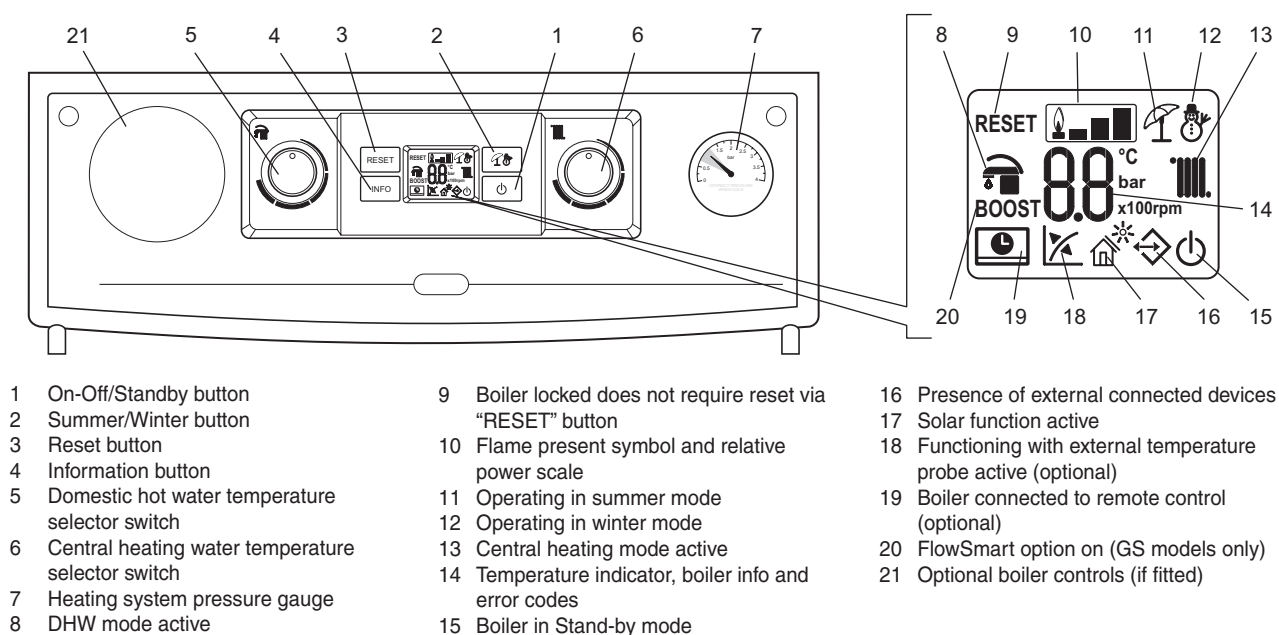
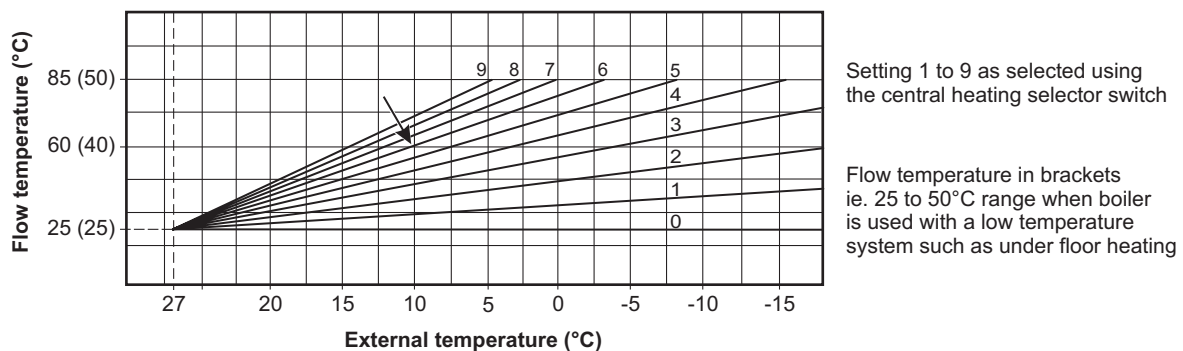

Fig. 1
Fig. 2 - External weather compensation probe fitted
Make sure the heating system is filled and the needle on the pressure gauge (item 7 in Fig. 1) is in the green band. If incorrect refer to Section 5.
Switch the boiler on at the mains supply socket switch. The boiler will automatically go through a system purging operation for 8 minutes; this is indicated by a count down on the display starting from 96. During this operation the pump will turn on and off to help remove any air that may be trapped in the heating system. If the boiler has already been commissioned by the installer then this operation can be terminated by pressing the reset button (item 3 in Fig. 1).
By pressing the On-Off button (item 1 in Fig. 1) the Standby or On mode can be selected, or press and hold the On-Off button for eight seconds to turn the boiler off.
On - In this mode the boiler can be switched between 'Summer' or 'Winter' settings by pressing the Summer/Winter button (item 2 in Fig. 1).
The temperature of the hot water to the taps can be adjusted by turning the hot water selector switch (item 5 in Fig. 1) to the required value shown on the display in °C.
The temperature of the central heating water can be adjusted by turning the central heating selector switch (item 6 in Fig. 1). When the heating is on the temperature of the water leaving the boiler to the radiators will be displayed.
If an external weather compensation probe is fitted, indicated by the  symbol (item 18 in Fig. 1) in the display, it will automatically vary the temperature of the water in the radiators and on mild day the radiators will not feel as hot as on a cold day, this is normal and not a fault with the boiler or heating circuit. The room temperature will still be maintained as set by the room thermostat.
When an external weather probe is fitted, the central heating selector switch (item 6 in Fig. 1) will no longer adjust the flow temperature in °C, instead the display will show a scale of 1 to 9. Each number corresponds to a line on the graph in Fig 2 i.e. line 6 will give a flow temperature of 60°C when the external temperature is 10°C.
To fill or pressurise the system open one tap fully by turning it 90° anticlockwise in line with the tap housing. The second tap should be opened a quarter of a turn and the water will start to refill the system (water should be heard filling the system). You should see the pressure gauge (item 7 in Fig. 1) rise back up into the green area on the pressure gauge between 1 bar and 1.5 bar pressure.
By pressing the info button (item 4 in Fig. 1) the information menu is accessed this will then show the information according to the table below.
If a fault occurs a fault code will be displayed in the LCD display screen (item 14 in Fig. 1), indicated with an alternating flashing E followed by the fault code. A list of fault codes are given in the table below.
Press the reset button (item 3 in Fig. 1) on the control panel to restart the boiler if the fault occurs again, make a note of the fault code and contact your installer or Alpha technical Helpline for further advice.